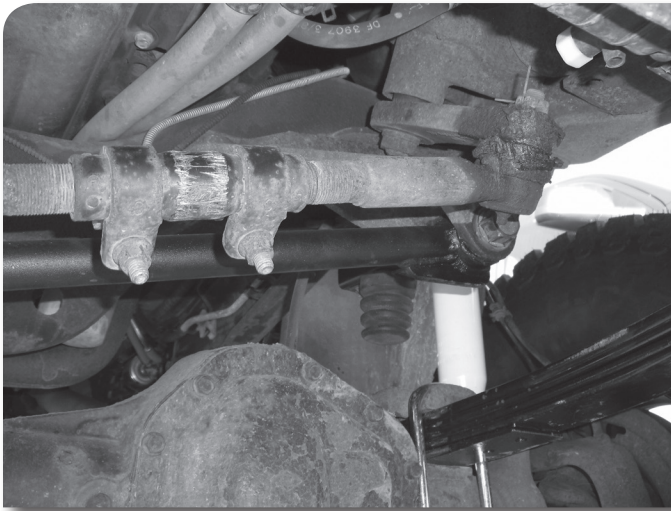

Figure 11
2. The steering wheel will need to be re-centered after the installation is complete. This is accomplished by loosening the adjusting collar clamps up near the pitman arm on the steering drag link. **Figure 11** Rotate the adjusting collar in the proper direction (have a helper watch the steering wheel) so that the wheel is centered when the front wheels are straight ahead. Torque adjusting collar clamps to 40 ft-lbs.